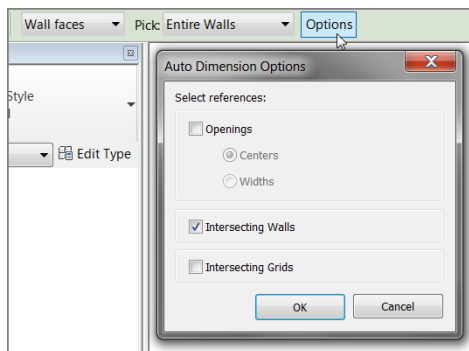

FIGURE 5.3: The Auto Dimension Options dialog box
7. In the Auto Dimension Options dialog box, select Intersecting Walls (see Figure 5.3). Don't select any other item. Click OK.